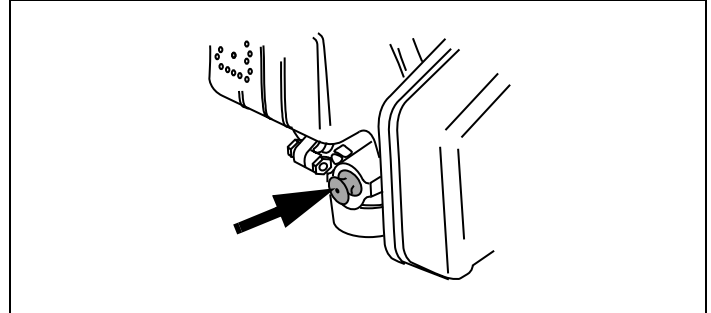

Figure 17. Engine Primer Bulb
- When starting a cold engine, push primer bulb firmly with your thumb 3 times, allowing primer bulb to return completely to original position between pushes. See Figure 17.